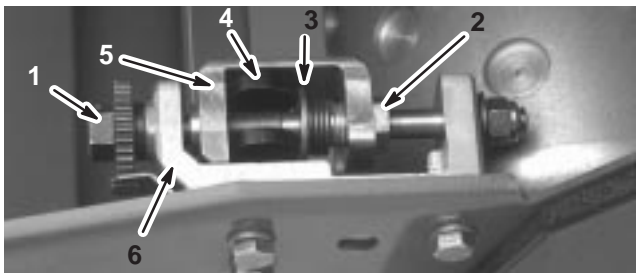

Figure 46
1. Turn the bedbar adjuster screw, counterclockwise, until the channel bottoms out in the adjuster frame (Fig. 46).
2. Using a 7/8 in. standard wrench, back out the spring tension screw until the thrust washer is no longer tensioned against the bedbar (Fig. 46).
3. On each side of the machine, loosen the jam nut securing the bedbar bolt (Fig. 46).
4. Remove each bedbar bolt allowing the bedbar to be pulled downward and removed from the machine. Save the 2 nylon and 2 stamped steel washers on each end of bedbar (Fig. 46).